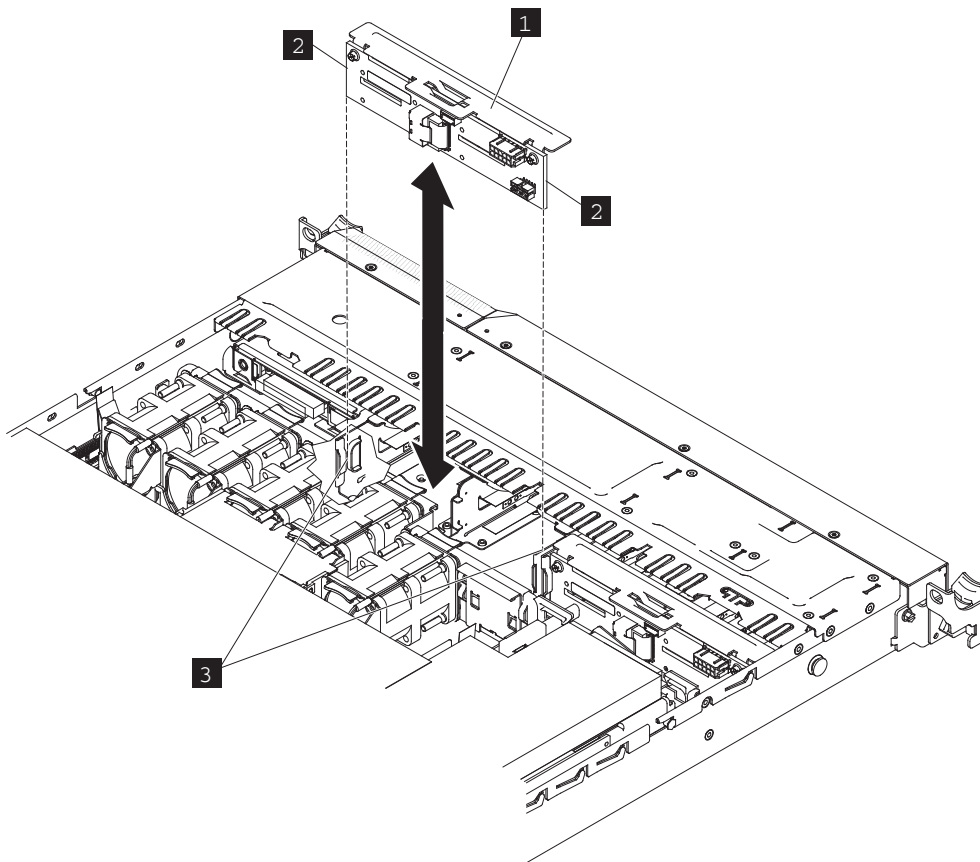

Figure 137. The 2145-CG8 boot-disk backplane
12. Lift up the disk-drive backplane (**1** in each of the following two illustrations to disengage the backplane edges (2145-CG8) or tabs (2145-CF8) (**2**) from the slots (**3**) on a backplane bracket. In the 2145-CG8 node, pull up slowly on each backplane until it is clear of the slots on the bracket and remove it from the node, as shown in Figure 137 on page 164.